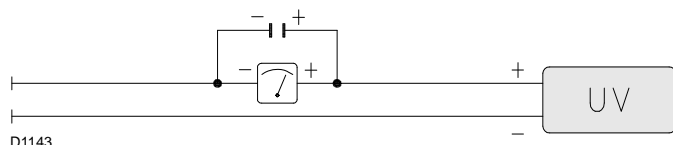

Fig. 44
**Electrical current to flame sensor (Fig. 44)**